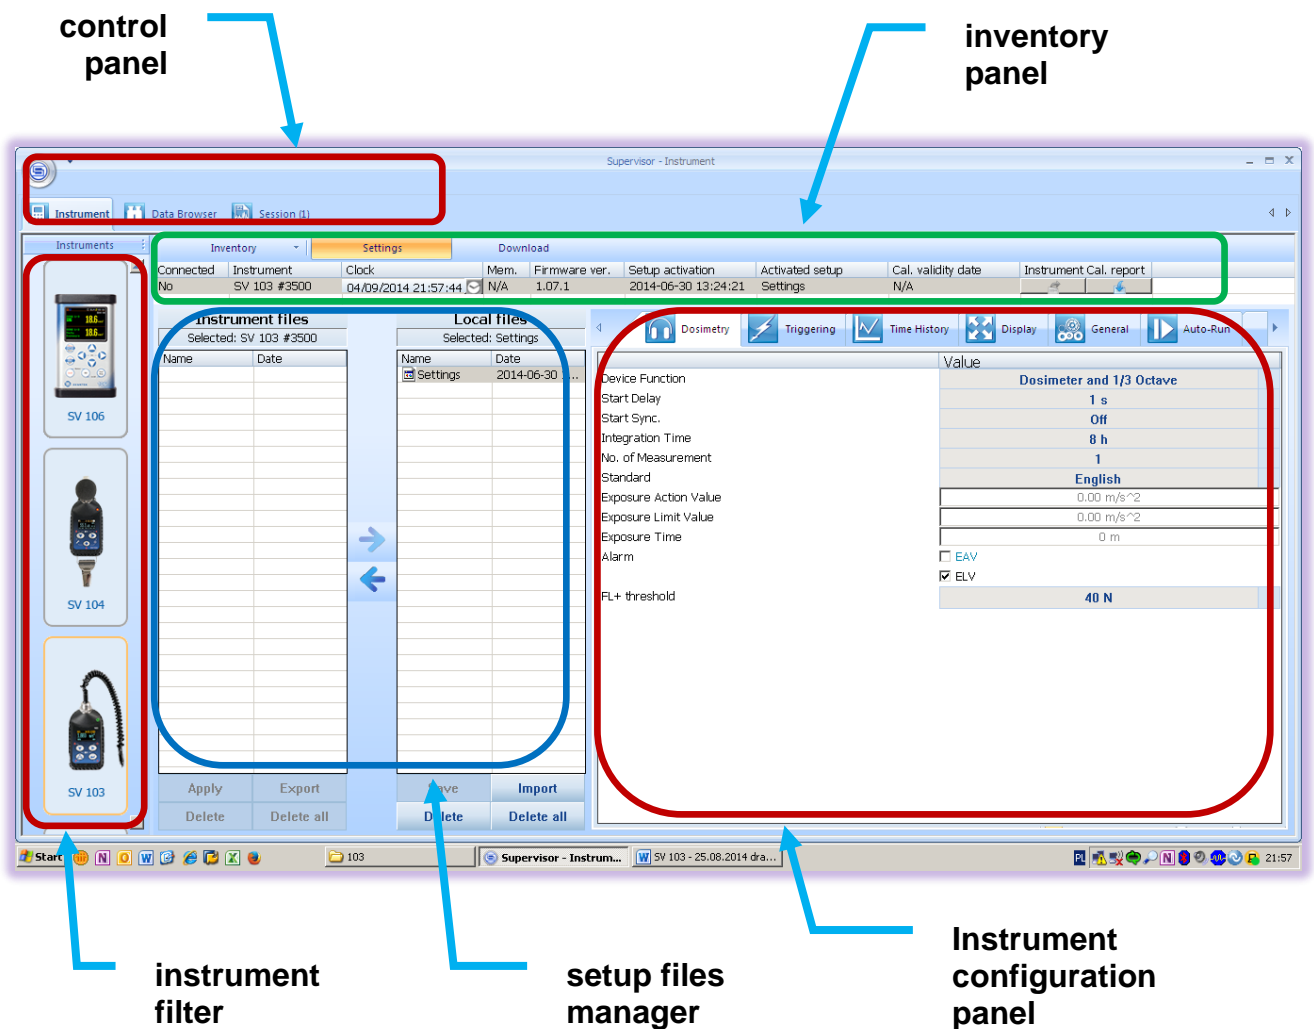

Figure 5-2 Supervisor main window
3. Select the just copied **“Settings”** with a click: this will display quite a few configuration tabs on the right side so called Instrument configuration panel of the main **Supervisor** window (Figure 5-2).